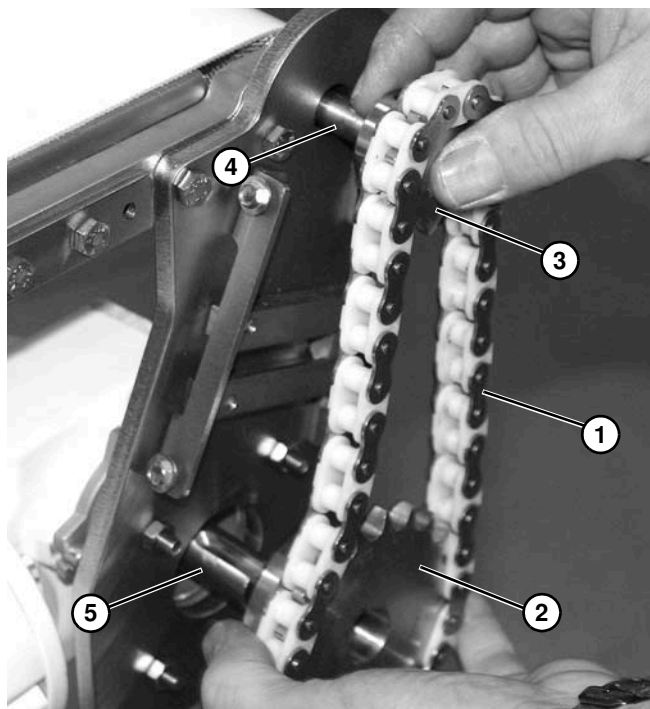

Figure 62
Make sure sprocket keys are installed on conveyor input shaft (Figure 62, item 4) and gearmotor output shaft (Figure 62, item 5).
8. Install new timing chain (Figure 62, item 1) over drive sprocket (Figure 62, item 2) and driven sprocket (Figure 62, item 3). Install timing chain and sprockets on conveyor input shaft (Figure 62, item 4) and gearmotor output shaft (Figure 62, item 5). Do not tighten sprocket set screws.